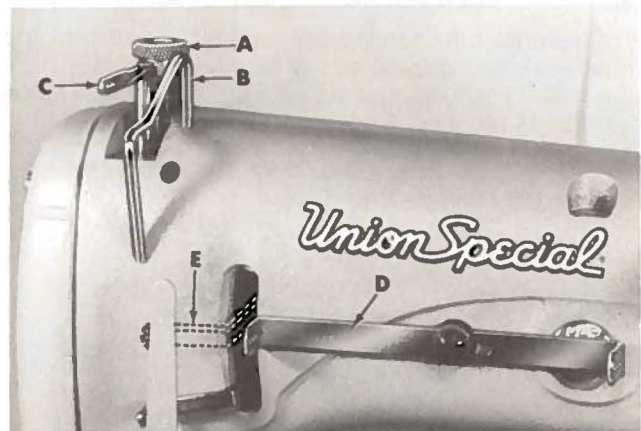

FIGURE 12
Regulate the presser spring regulating screw (A, Fig. 12) so that it exerts only enough pressure on the presser foot to feed the work uniformly when a slight tension is placed on the fabric. Turning it clockwise increases the pressure, counterclockwise acts the reverse.
Set the needle thread takeup wire (B, Fig. 12) so that it contacts the needle threads in the needle bar eyelet (C) when it reaches its lowest position. Lower this setting for a smaller needle thread loop and raise it for a larger loop. Set the needle thread frame eyelet (D) so that it is parallel and in line with the needle lever thread eyelet (E) when the needle bar is at the top of its stroke and starting its downward movement.